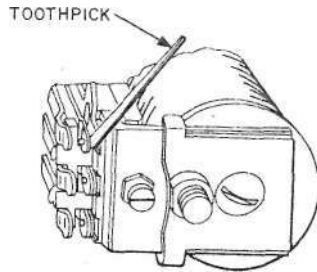

Fig. 47—Blocking Contacts of 125- and Similar-Type Relays
5.07 Blocking Contacts of 125- and Similar-Type Relays: Fig. 47—Block individual contacts with a toothpick as shown in Fig. 47.